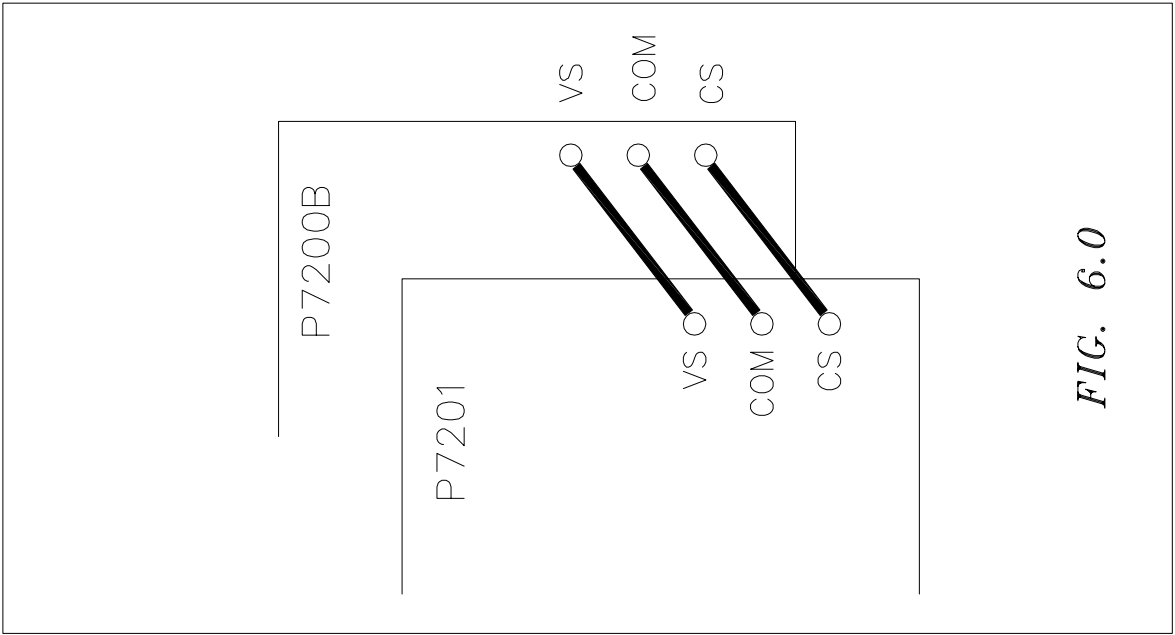

FIG. 6.0
- Connect the points VS, COM and CS (see board annotation in manual) of the readout by means of wire (thin additionally supplied pieces of wire of 0.5mm) of about 10cm with the corresponding point on the power supply board. (figure 6.0)